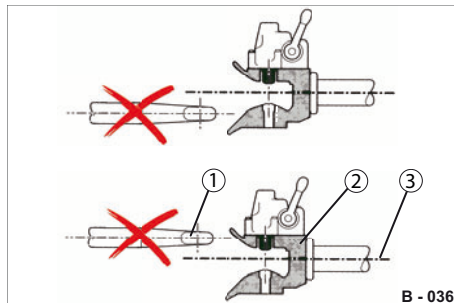

Fig. 46 Height adjustment false
► Set the height of the drawbar so that the towing eye meets at the middle axis (Fig. 46/3) or slightly on the lower flaps of the catcher.